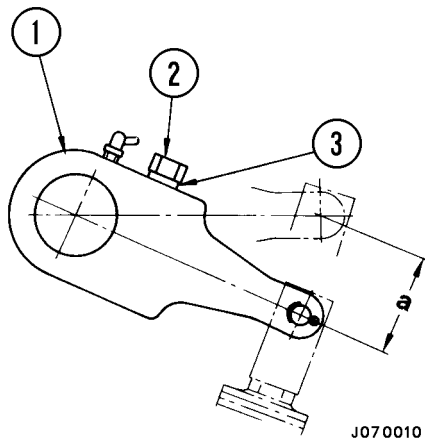
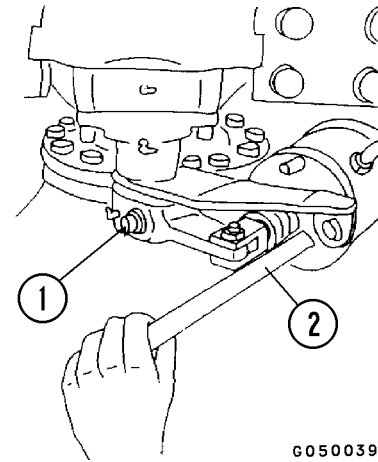

FIGURE 40-18. ARM ADJUSTMENT
FIGURE 40-20. ADJUSTING CLEARANCE
2. Push in capscrew retainer (3, Figure 40-18) of slack adjuster (1) until the capscrew can turn, then turn capscrew (3) clockwise.
4. After adjusting the pad clearance, actuating stroke "a" (Figure 40-18) of the rod should be measured and adjusted to approximately 50 mm (1.97 in.). (Figure 40-20)